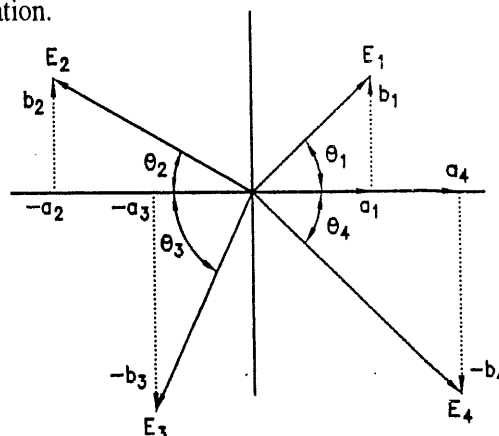

FIG. 2.23 : REPRESENTATION OF VECTORS IN RECTANGULAR FORM
- In Fig. 2.23 other vectors are shown in the symbolic notation.